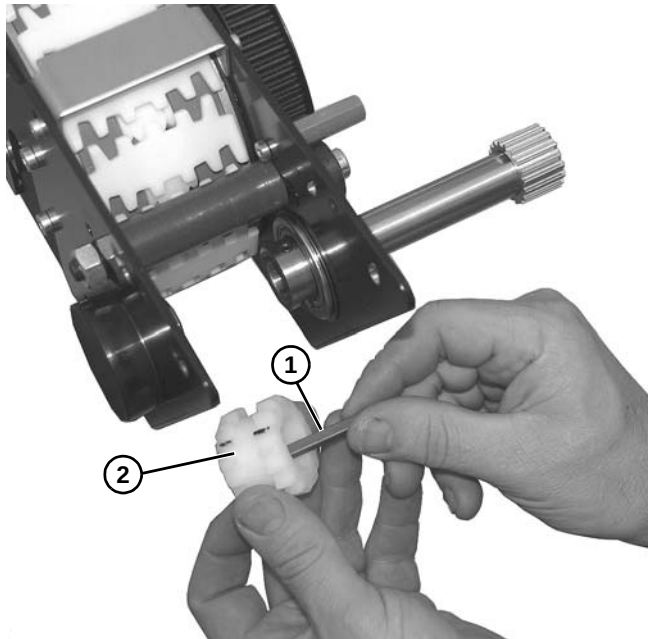

Figure 114
16. Remove key (**Figure 114, item 1**) from gear (**Figure 114, item 2**).